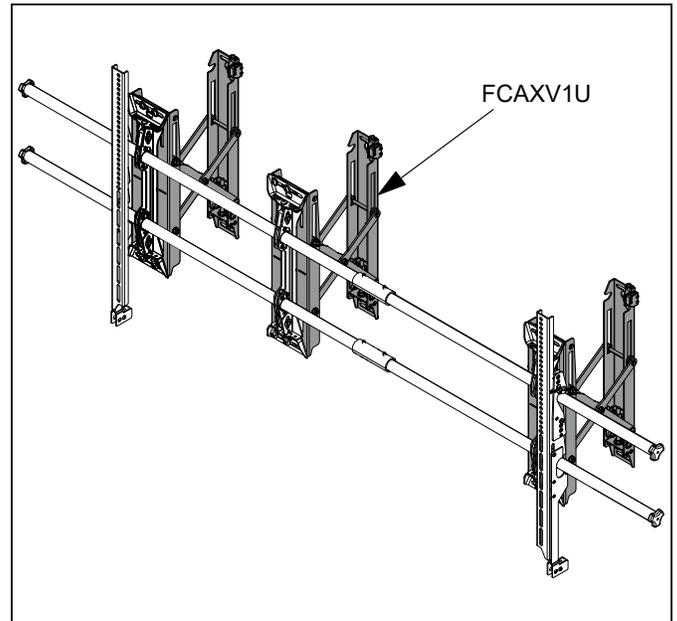

Figure 22
1. The KITXWXSM1U mount may be used with the UL Listed FCAXV1U Fusion pull-out accessories. Reference the Installation Manual included with FCAXV1U for full installation process. (See Figure 22)